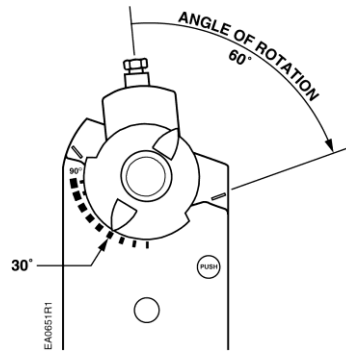

Figure 20. Mechanical Range Adjustment.
5. Remove the shaft adapter and insert it with the position indicator pointing to the mark on the scale calculated in the previous step. See Figure 20.